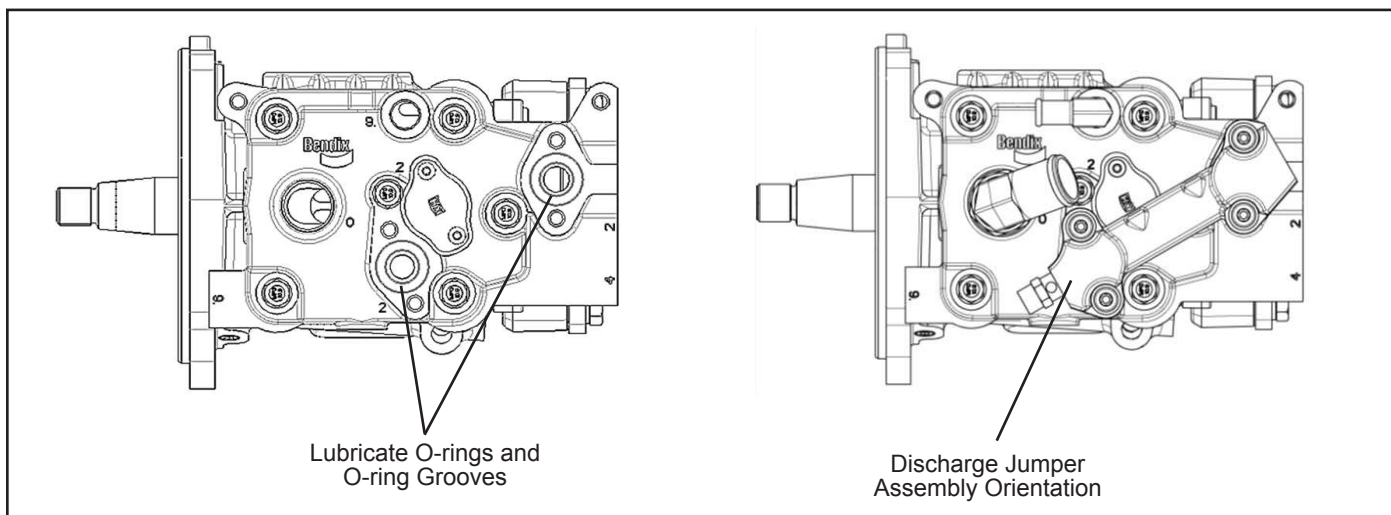

FIGURE 13 - DISCHARGE JUMPER ASSEMBLY
14. Apply a coating of lubricant to the two discharge jumper o-rings (40) and install the o-rings into the two o-ring grooves on the cylinder head (13).
15. If the safety valve (12) was previously removed from the discharge jumper (41), screw the safety valve into the side port of the discharge jumper (37) and torque to 200–249 in-lbs (22.5–28 N•m).
16. Position the discharge jumper (37) over the cylinder head (13) such that it lines up with the four attachment bolt holes. *Refer to Figure 13* to ensure proper orientation on the cylinder head (13) *Note: There is only one way the discharge jumper can be installed on the cylinder head.*
17. Install the discharge jumper washer (39) and cap screw (38) in each of the four holes on the discharge jumper (37). Hand tighten the four cap screws and torque in a cross pattern to 115–133 in-lbs (13–15 N•m).